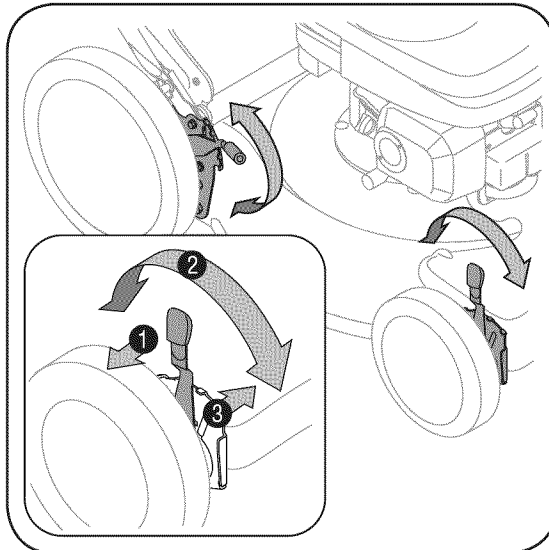

Figure 3-7: Use the lever at each wheel to adjust the cutting height.
2. Move it to any one of the positions for desired cutting height, Figure 3-7. Make sure that each wheel is positioned at the same height.